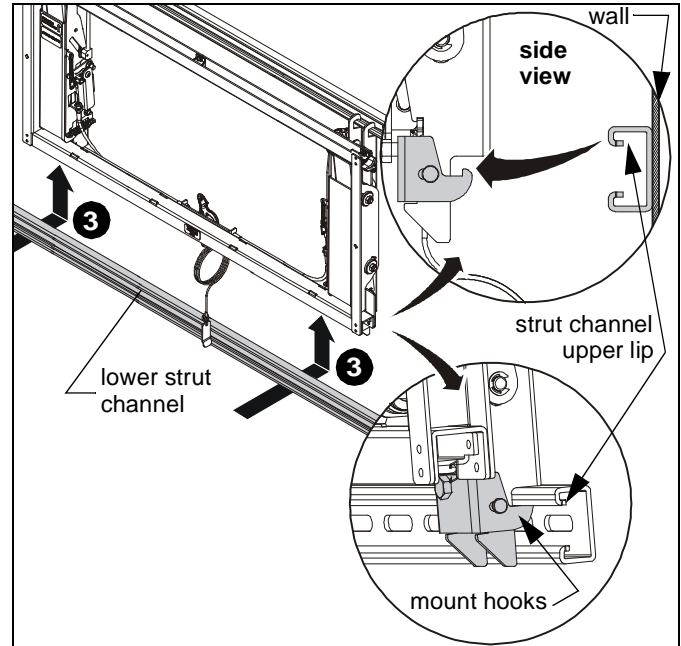

Figure 8
3. **LVXSXU only:** Add lower strut channel to bottom of all mounts in row by lifting strut channel up from below mounts and setting upper lip of strut channel onto mounts' latching hooks. (See Figure 8)